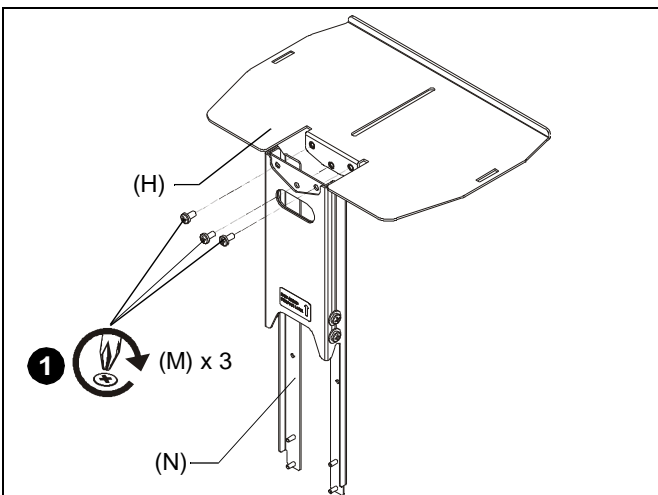

Figure 2
1. Attach shelf (H) to upright (N) using three 1/4-20 x 1/2" Phillips pan head machine screws (M). (See Figure 2)